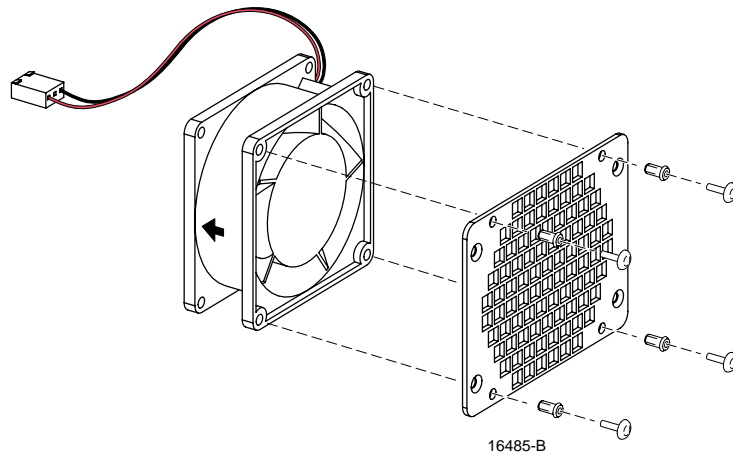

Figure 16. Removing Fan From Grill
7. Remove the four plastic rivets that secure the faulty fan to the grill by pushing outward on rivet center post until the rivet can be withdrawn from the grill as shown in Figure 16.